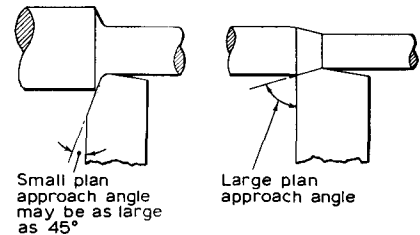

Fig. 4.188
**Plan approach angle.** This is the angle made by the cutting edge of the tool to the work; see Fig. 4.188. Too large an approach angle may cause chatter and vibration.